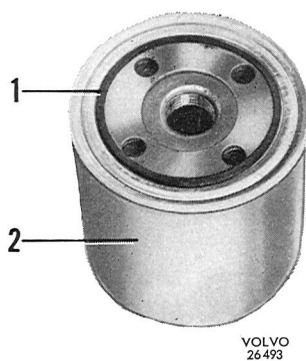

Fig. 2-61. Oil filter
2. Coat the rubber gasket (1, Fig. 2-61) of the new filter with oil and make sure that the contact surface for the oil filter is free from dirt. By smearing it with oil, the gasket slides into better